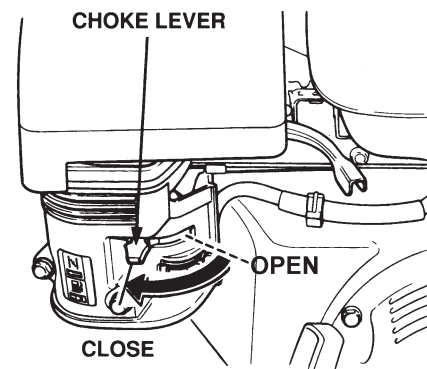

Figure 5. Choke Lever
2. To start a cold engine, move the choke lever (Figure 5) to the **CLOSED** position.